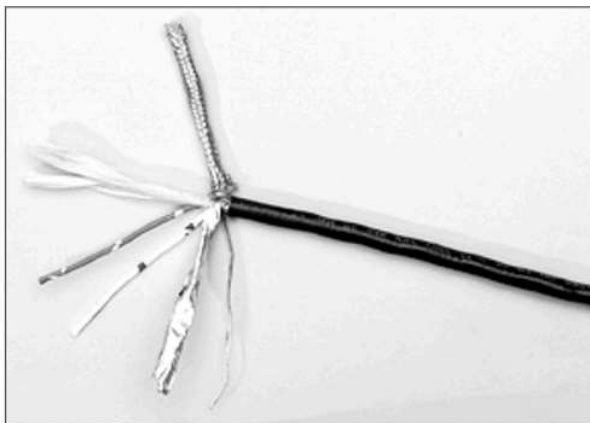

Figure 3.8: Separating cable parts
2. Separate the cable parts. Unbraid the braided shield and peel back the foil shield to the same point where the outer jacket was removed as shown in Figure 3.8.